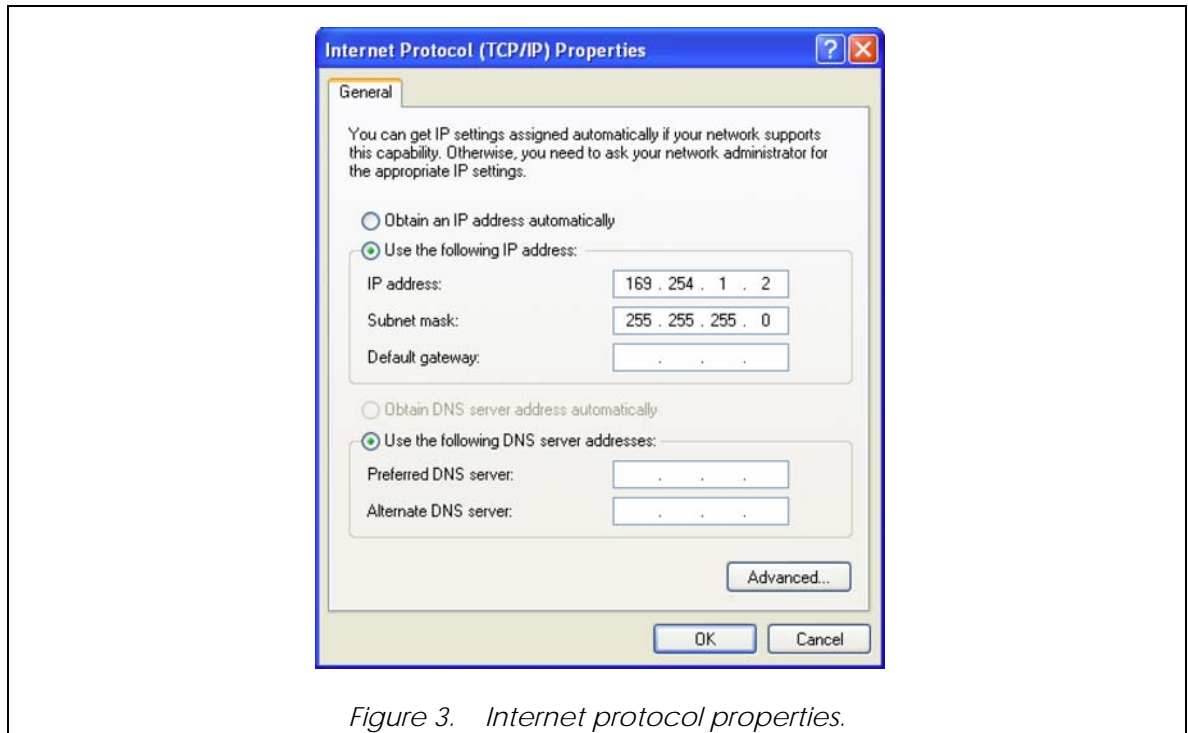

Figure 3. Internet protocol properties.
- b. On the Internet Protocol (TCP/IP) Properties window (see Figure 3) you must manually assign an IP address to the NIC card installed in the PC. Select the “Use the following IP address” radio button. Set the IP address to **169.254.1.2**. The Subnet mask should populate with **255.255.255.0**; if it does not, manually type it into the Subnet mask field. The Default gateway field can remain blank.